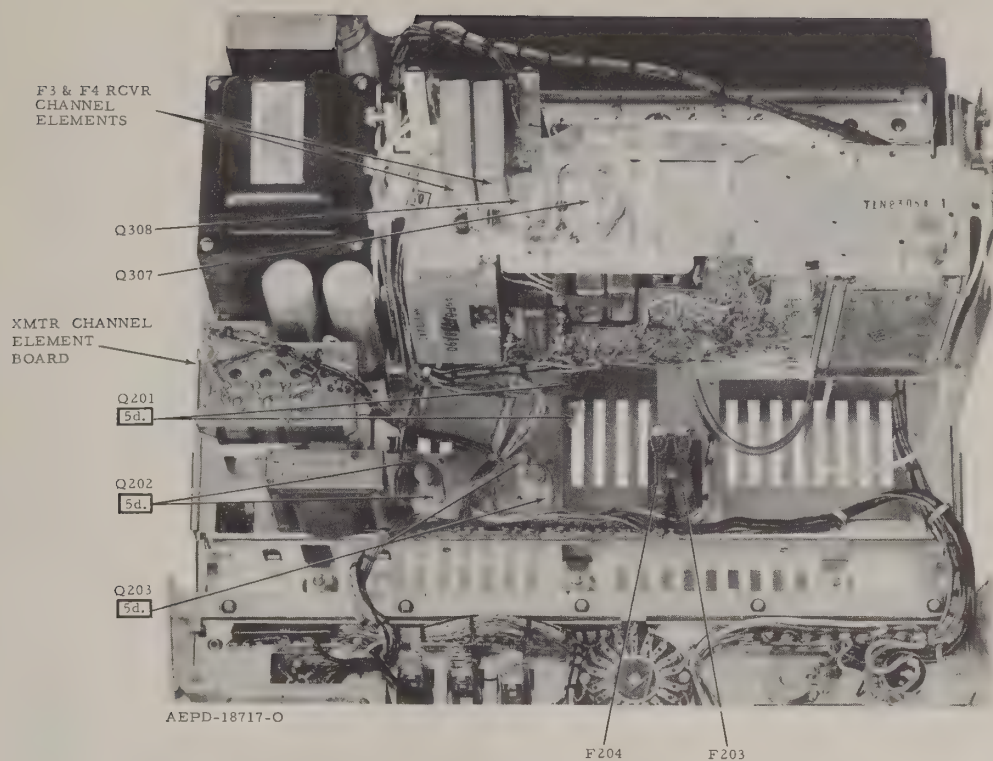

Figure 2.
The letters and numbers that appear in the boxes near the photographs indicate corresponding steps in the following paragraphs. Example: **5. d.** in Figure 2 indicates the location of items discussed in sub-paragraph "5. d.".
and Q203 pull the transistors out of their sockets. When removing transistor Q201, unsolder its leads from terminal board TB9. Refer to Figure 2 for transistor location and to Terminal Board Location and Pin Assignment Detail EPD-18625 in the cabling and functional diagrams section of this manual for location of terminal boards.
(1) Fuses F201 and F202 are accessible from the rear of the base station chassis. See the control line connection diagram in the INSTALLATION & OPERATION section of the manual for fuse location.
(2) Fuses F203 and F204 are installed in clips on the radio set chassis. Loosen two screws securing the receiver to the swivel bracket and rotate the receiver away for fuse accessibility. See Figure 2 for fuse locations.